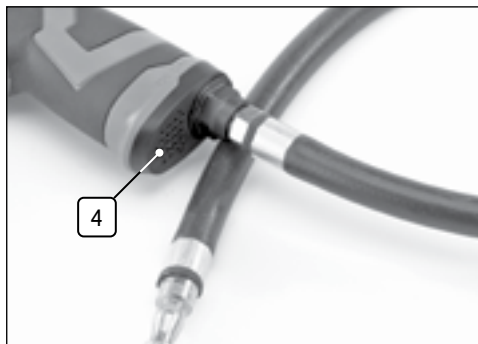

Fig. 7
7.4 Exhaust Port – Fig.7
- Ensure the exhaust port (4) is positioned away from yourself and it does not disturb any dust in close proximity.